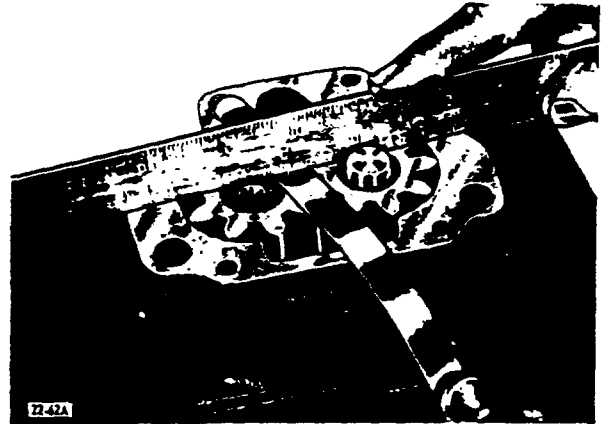

Figure 2-368. Checking Oil Pump Gear End Clearance
4. Check gear end clearance, backlash and side clearance. See Figures 2-368, 2-369 and 2-370.